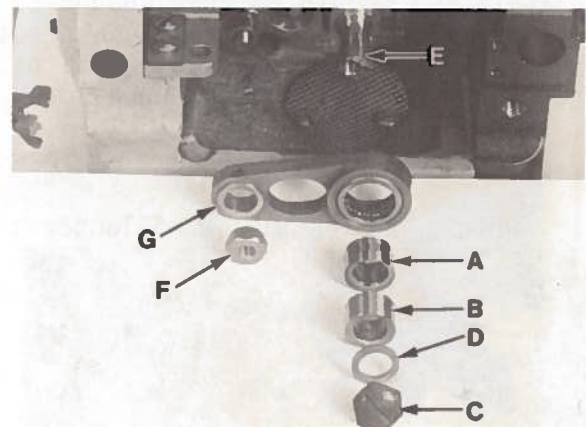

Fig. 23
When assembling feed eccentric (A, Fig. 23) and eccentric spacer (B), be sure hubs are facing each other and be careful not to damage shaft or key. To replace feed eccentric, remove screw (C), crankshaft spacer (D) and eccentric spacer (B) from end of shaft (E). Turn handwheel in operating direction to position key groove in eccentric towards the front and using hooked eccentric extractor supplied with machine, reach behind eccentric and withdraw same, while rocking handwheel slightly back and forth. If eccentric is unusually tightly fitted, it may be necessary to remove nut (F) and feed driving connection (G), then continue as originally suggested.